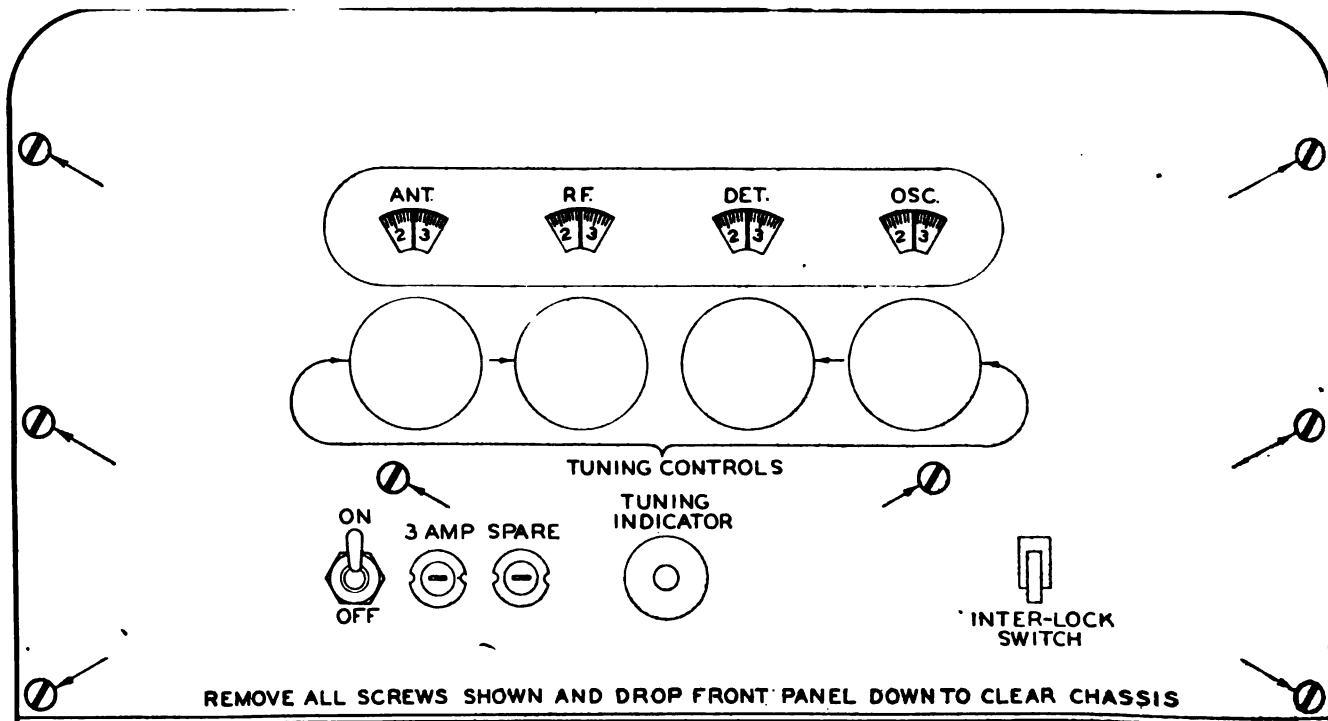

Figure 255. Removal of front panel of Receiver BC-1072-A.
- b. Remove all screws shown in figure 255.